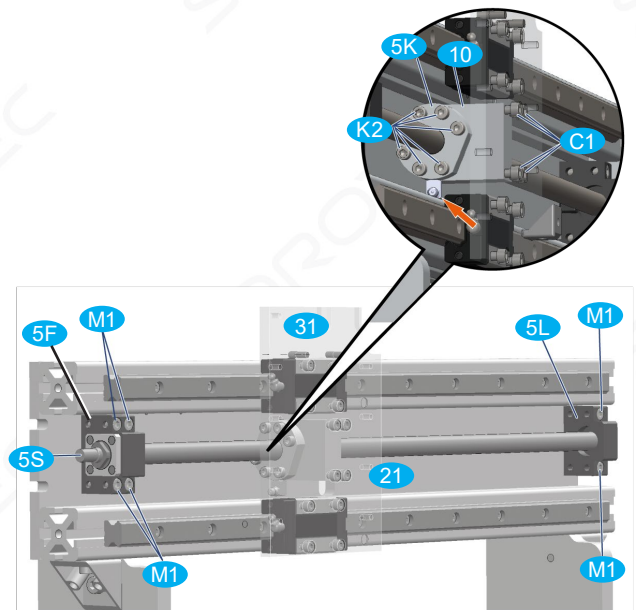

Fig. 28: Assembly of flange bracket and Y-slide
- Guide the pre-assembled Y drive **5** behind the Y carriage as shown in Figure 28. Screw the floating bearing **5L** with 2 and the fixed bearing **5F** with 4 cylinder screws **M1** to the portal beam; Tighten screws slightly.